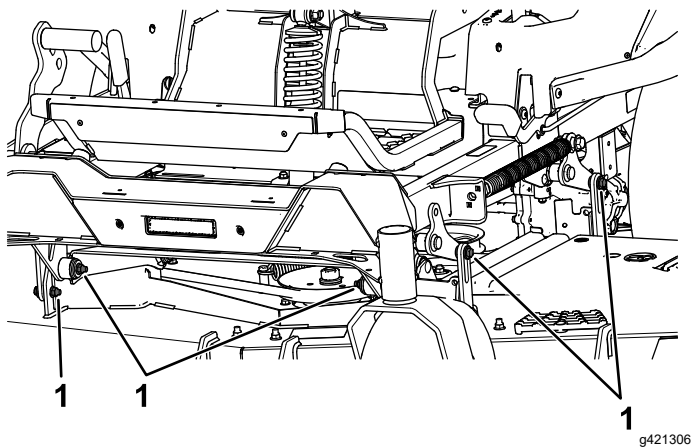

Figure 88
7. Remove and retain the bolts and nuts on both sides of the machine (Figure 88).